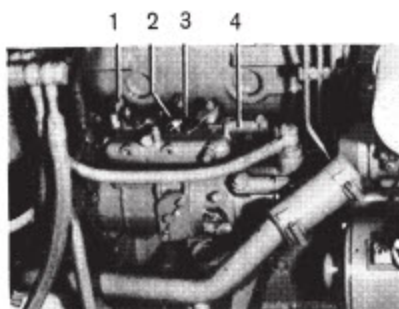

Fig. 28. 4-cyl. engine
2. Loosen the lock nut, then turn the screw (2, Fig. 28 or 29) so that the correct idling speed is obtained.
3. Re-tighten the lock nut while holding the nut (2) firm.
Check that the control lever of the controls is in neutral position and that the fuel injection pump lever (3, Fig. 28 or 29) is in the idling position. Release the spring "disc" from the lever. Screw on a lock nut and then the "disc" with the spring end in front so far that a tensioning of the spring by 4–5 mm (0.16–0.20") is obtained when the "disc" is refitted in the lever. Tighten the lock nut. Move the control lever fully "Forward" and check that there is optimum operation on the fuel injection pump.
Check that the stop control lever (1, Fig. 28 or 29) lies against its stop on the fuel injection pump and that the control is pushed in. Then screw securely the control wire in the "dice" on the lever.